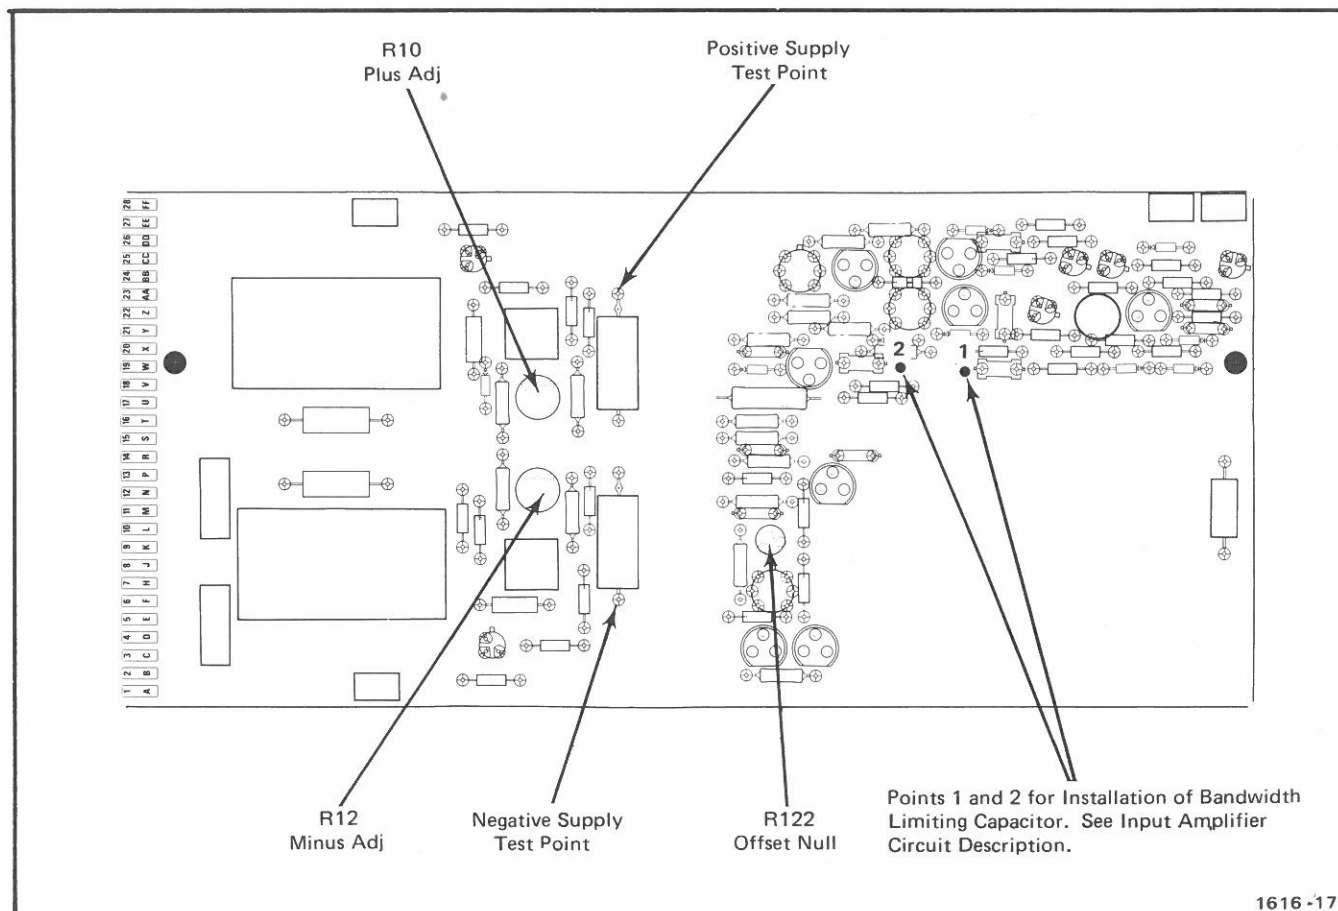

Fig. 3-1. Location of Power Supply and Offset Null adjustments and test points.
a. Connect the digital voltmeter between the Positive Supply test point on the circuit board, and chassis ground. See Fig. 3-1 for voltage test point location.
c. Adjust— Plus Adj, R10, for a meter reading of +49.7 volts ± 0.1 volt. See Fig. 3-1 for adjustment location.
a. Connect the digital voltmeter between the Negative Supply test point on the circuit board, and chassis ground. See Fig. 3-1 for voltage test point location.
c. Adjust— Minus Adj, R12, for a meter reading of -49.7 volts ± 0.1 volt. See Fig. 3-1 for adjustment location.
C118 and R119 prevent oscillation at the higher frequency limits. C116 improves the slewing rate during high common-mode voltage swings. The bandwidth may be reduced, if desired, by the addition of capacitance at Points 1 and 2. See Fig. 3-1 for location.